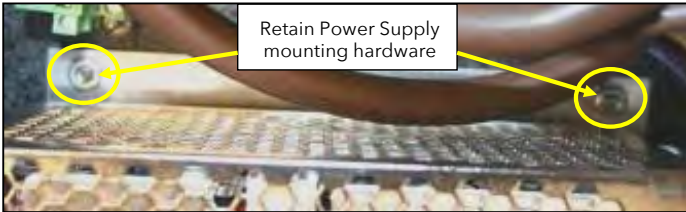

Figure 7. AC POWER SUPPLY MODULE.
- Using the 5/16" nut driver, loosen and remove the two nuts and lock washers securing the existing AC power supply module to the chassis. Refer to Figure 7. Retain the mounting hardware.